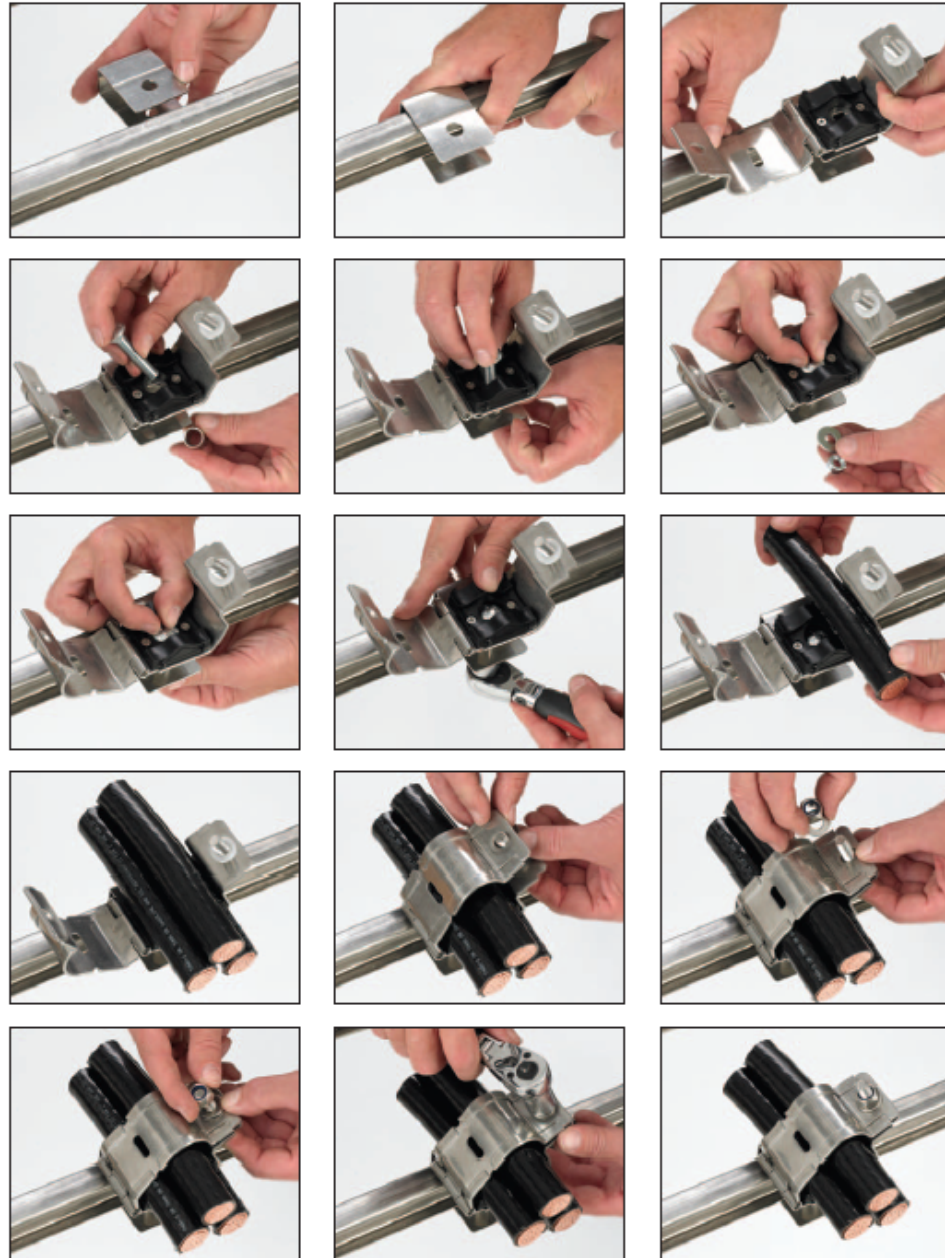

Figure 2-16: Step-by-step instruction to install cable cleats
- (f) Route wires along the cable tray to the ac disconnect switch, ensuring that the three phases (A, B and C) are bundled together in a triangular pattern and cable cleats (Nautel Part # HO59) are used to properly secure wires to the cable tray (see Figures 2-16 and 2-17 for examples of proper techniques). Cable cleats are provided in the primary and secondary wiring kits to secure the larger ac wiring to the cable tray ladders. Secure cable cleat brackets (HX69) to the cable tray rungs using hardware provided with the cable cleat. Install cable cleats 3 ft. apart on straight ladder sections and 1 ft. apart on curved sections. See Figure 2-16 and Appendix D for detailed instructions to assemble and install cable cleats on cable trays.
- (n) Route wires along the cable tray to the NX power transformer, ensuring that the three phases (A, B and C) are bundled together in a triangular pattern and cable cleats (Nautel Part # HO59) are used to properly secure wires to the cable tray (see Figures 2-16 and 2-17 for examples of proper techniques). Cable cleats are provided in the primary and secondary wiring kits to secure the larger ac wiring to the cable tray ladders. Secure cable cleat brackets (HX69) to the cable tray rungs using hardware provided with the cable cleat. Install cable cleats 3 ft. apart on straight ladder sections and 1 ft. apart on curved sections. See Figure 2-16 and Appendix D for detailed instructions to assemble and install cable cleats on cable trays.
- (d) Route secondary wires along the cable tray to the NX transmitter, ensuring that the three phase wires are bundled together in a triangular pattern and cable cleats (Nautel Part # HO59) are used to properly secure wires to the cable tray (see Figures 2-16 and 2-17 for examples of proper techniques). Cable cleats are provided in the primary and secondary wiring kits to secure the larger ac wiring to the cable tray ladders. Secure cable cleat brackets (HX69) to the cable tray rungs using hardware provided with the cable cleat. Install cable cleats 3 ft. apart on straight ladder sections and 1 ft. apart on curved sections. See Figure 2-16 and Appendix D for detailed instructions to assemble and install cable cleats on cable trays.